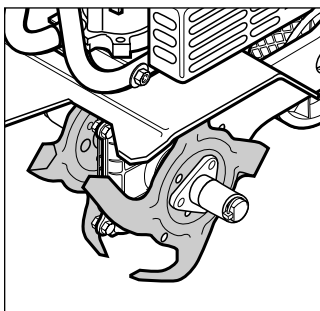

Figure 17: Narrow tilling tine configuration.
- Slide one of the long bushings (provided with unit) onto the shaft. See Figure 17. Insert the ring lock pin through the rounded side of the tine shaft and snap the ring down over the shaft (see DETAIL, Figure 4, in the *Assembly Section*).